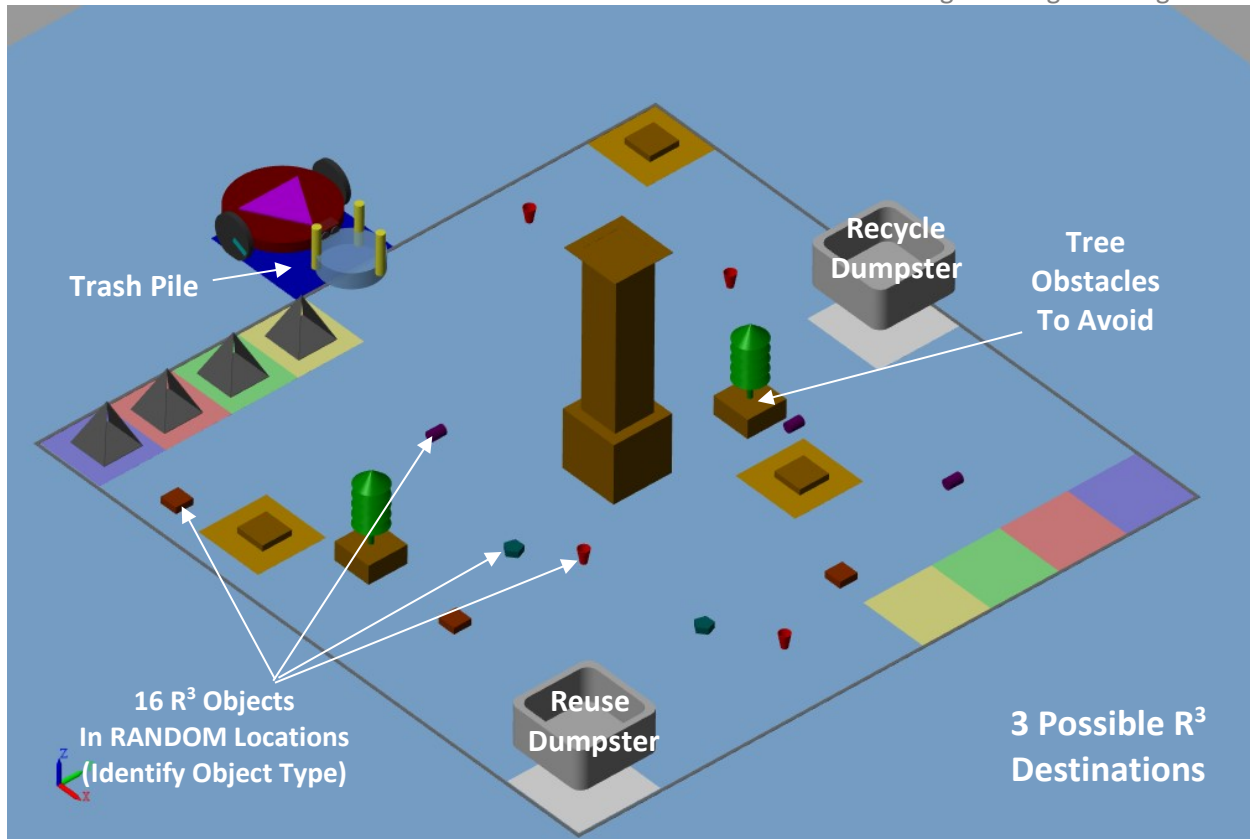

Figure 2.8. Phase 5 Field Layout and Objectives
- Figure 2.8 represents the field layout expected during Phase 5.
- Three (3) light poles are preloaded onto the virtual robot at the beginning of the phase. These light poles play no role in this Phase.